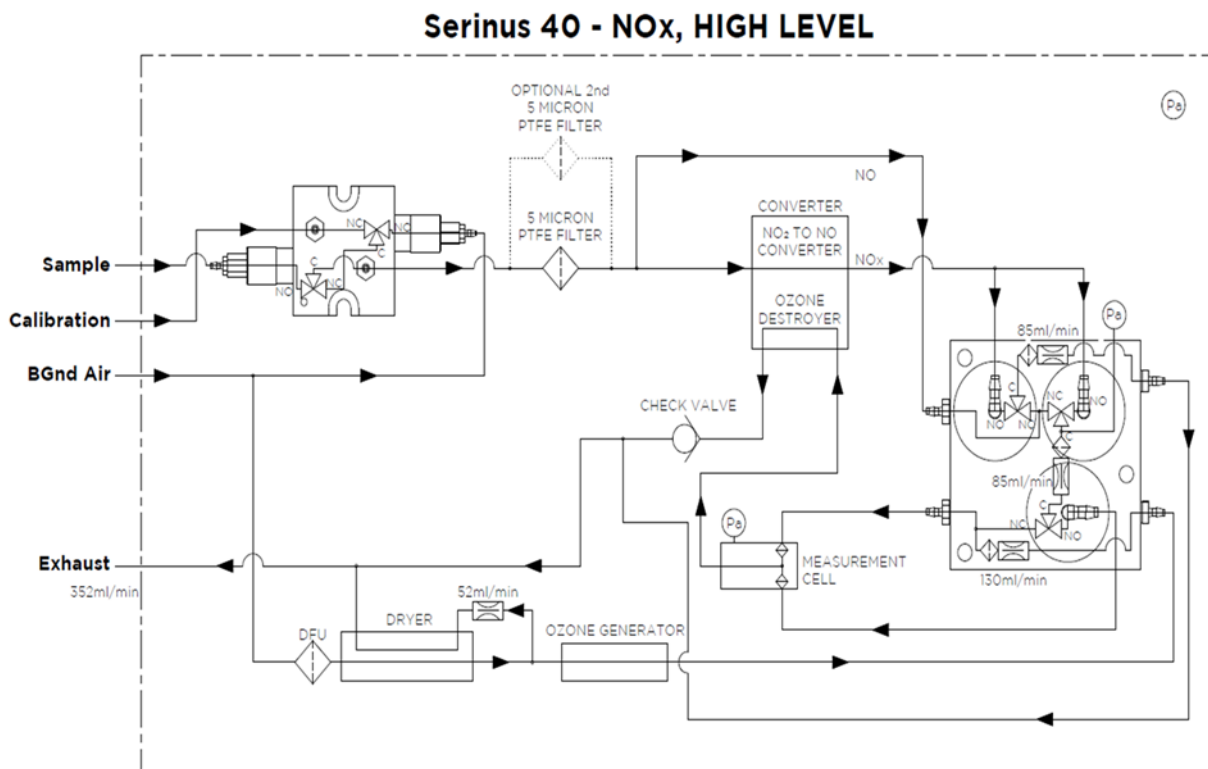

Figure 81 – Serinus 40 high level pneumatic diagram
- Delay coil removed (shown in Figure 81)